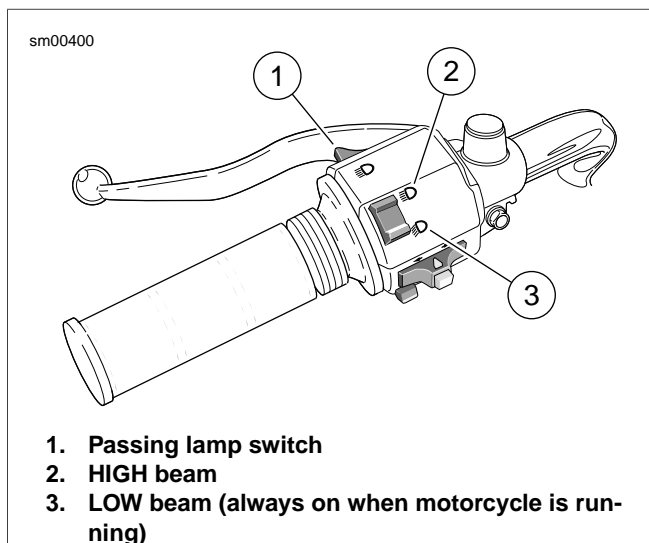

Figure 6-63. Headlight Controls
- b. See Figure 6-63. Check headlight LOW beam (3) and HIGH beam (2) settings.
- c. Set headlight to LOW beam. Press passing lamp switch (1). Headlight should flash HIGH beam for as long as the switch is pressed.